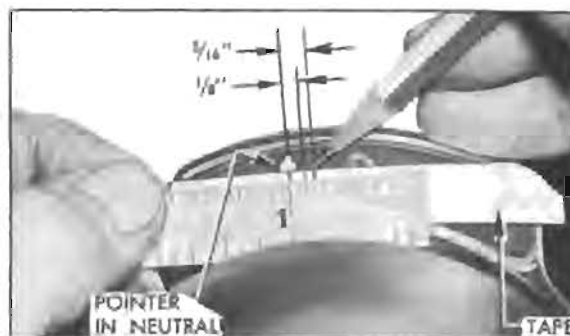

Figure 10-43—Marking Tape for Checking Switch Timing
2. Make two marks on masking tape at $\frac{1}{8}$ " and $\frac{3}{16}$ " from center of pointer. See figure 10-43. These marks give the same cut-in limits as provided by Gauge J 3085.